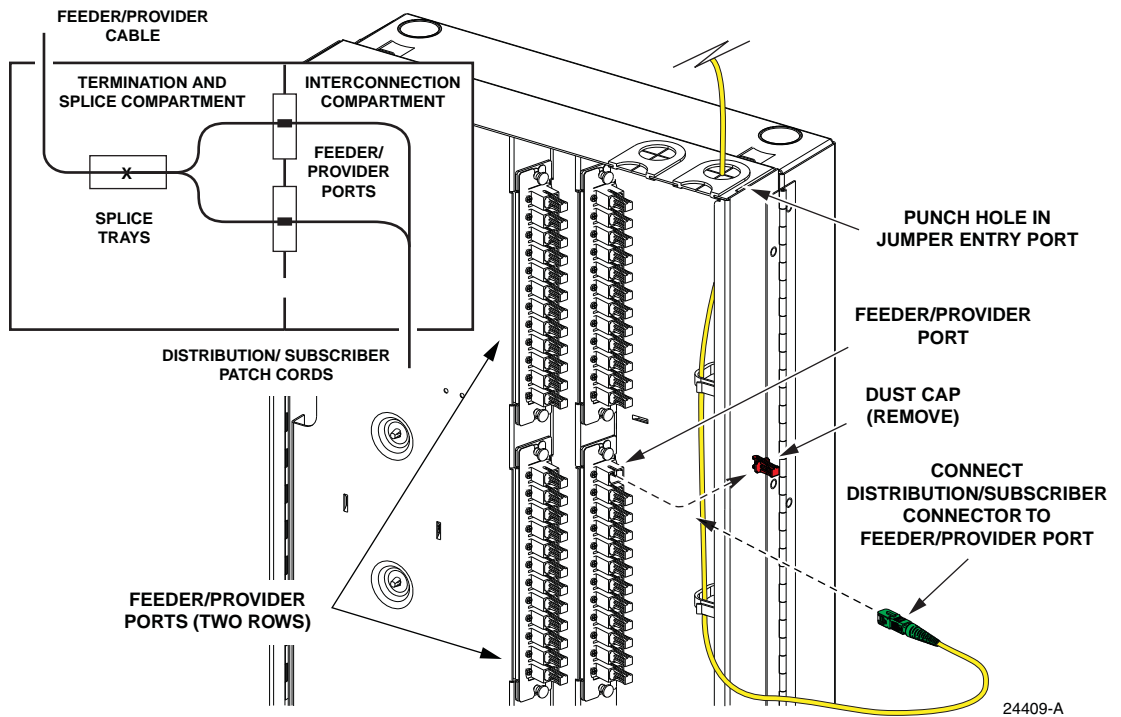

Figure 13. Interconnections – 48 Port IFDT Without Pre-Installed Distribution/Subscriber Pigtails
**48-port IFDT without pre-installed distribution/subscriber pigtails:** Service is initiated when a distribution/subscriber equipment patch cord connector is connected to the appropriate feeder/provider port as shown in Figure 13.